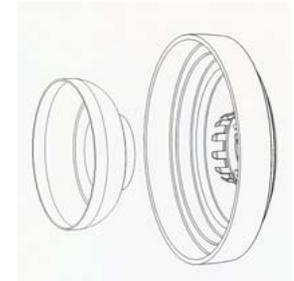

Figure 2
See **Figure 2**.
4. Remove the horn mechanism from the original wheel by removing the 3 Phillips screws and then reinstall this assembly back onto the **GRANT** wheel in the same orientation as on the old wheel. Reconnect the horn wire to the mechanism and install the horn button by pressing into position. **NOTE:** See **Figure 2**. The metal and plastic horn buttons are shipped one inside the other. You will not use the metal button provided with the **GRANT** wheel (*You can either reuse your original plastic button or use the new one provided with the **GRANT** wheel*).